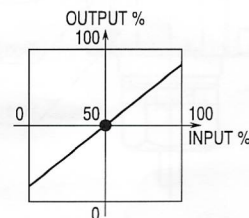

Fig. 6
3) With 50% input (actuator position), check that the output is approximately 50%. See Figure 6.